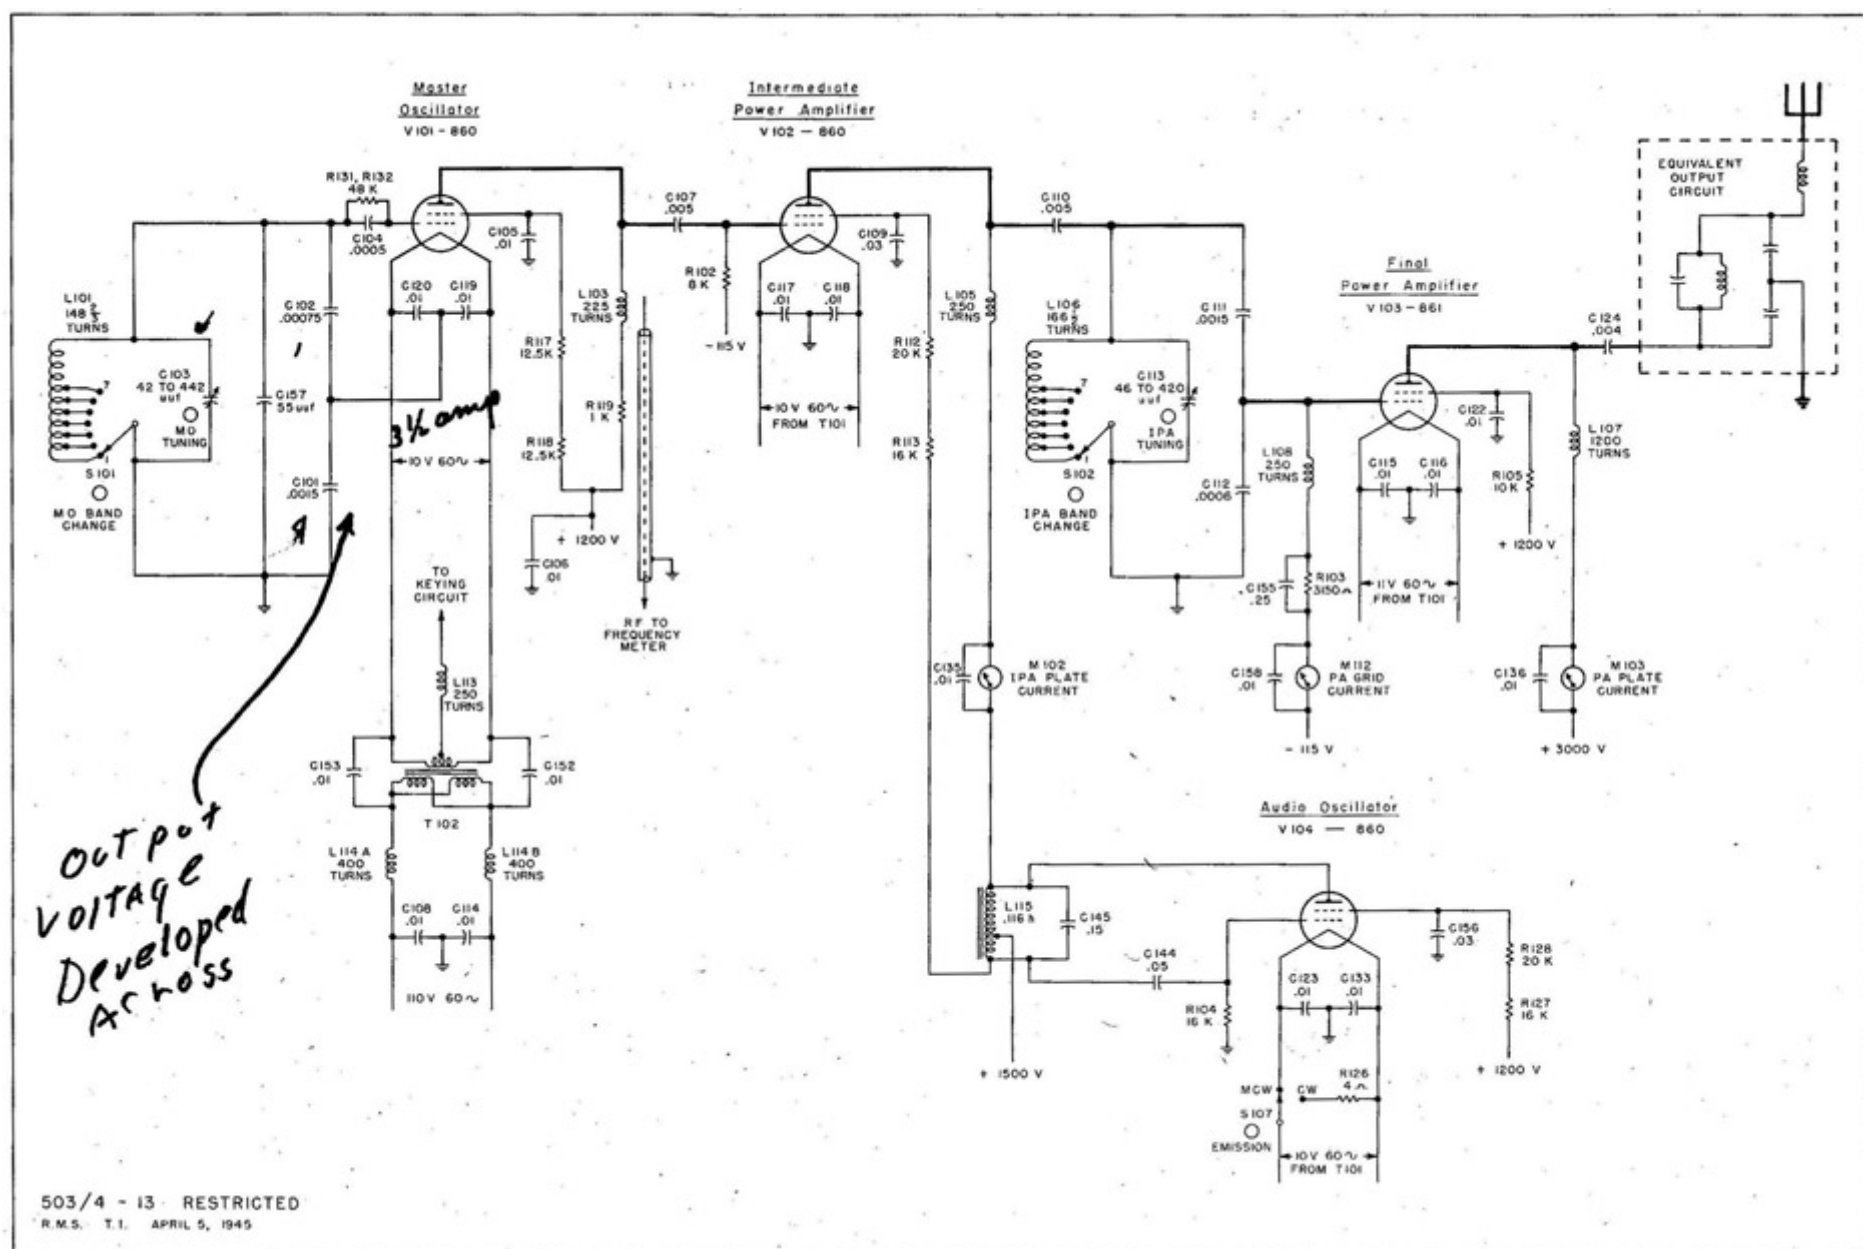
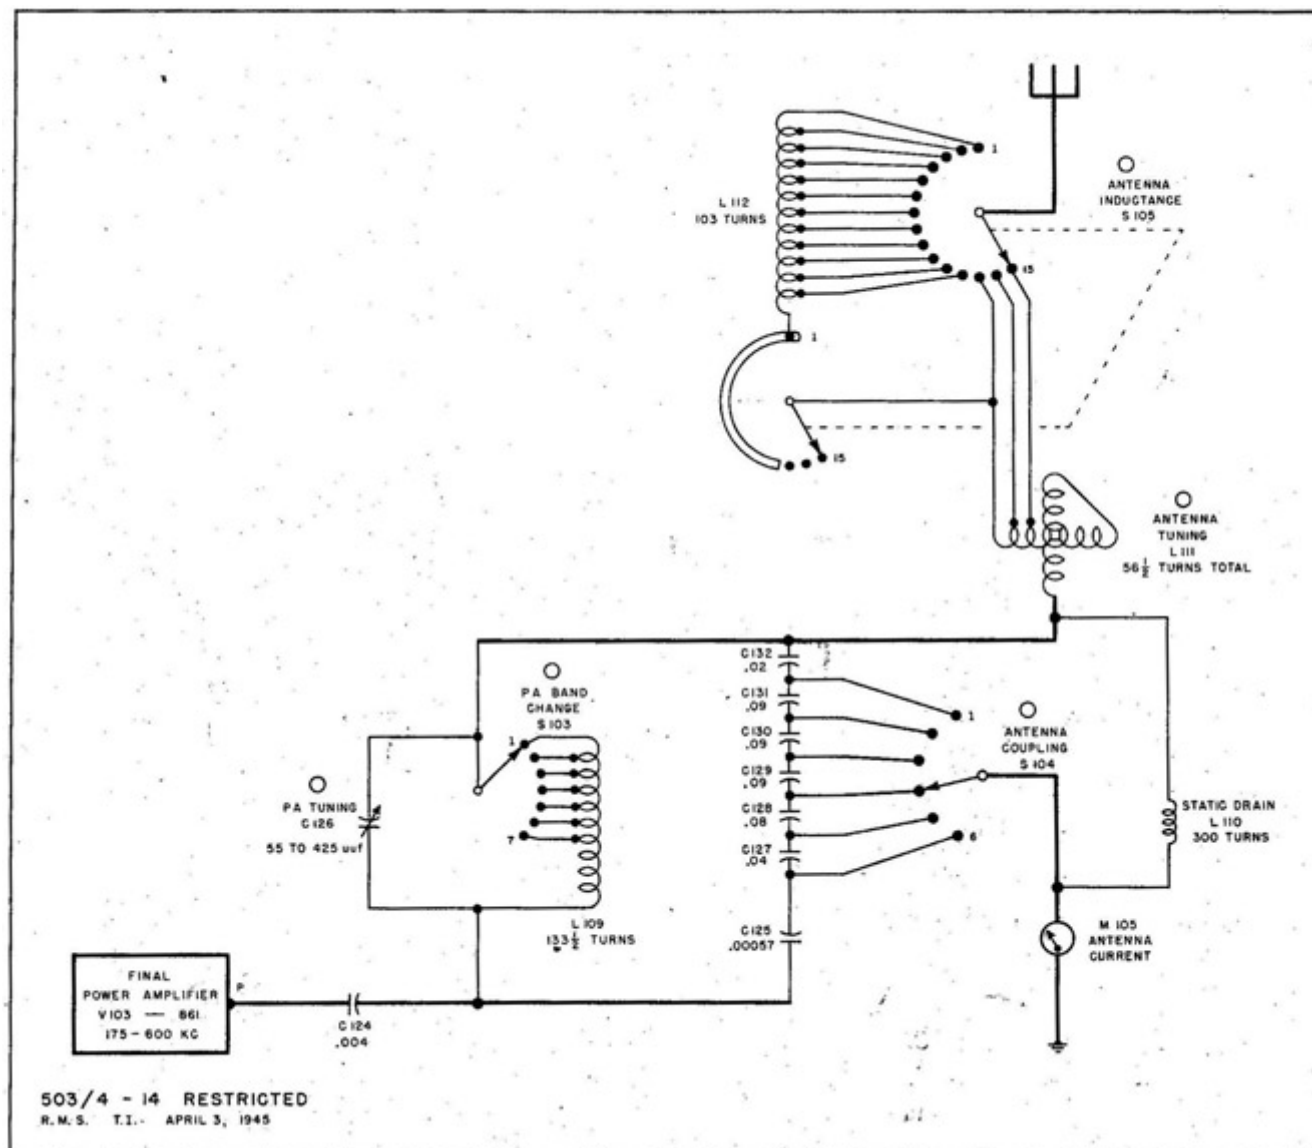

Fig. 13 TAJ-18 Transmitter RF and AF Circuits.
Fig. 14 TAJ-18 Transmitter Antenna Circuit.
- (a) Tuning range from 175 to 600 kilocycles in the same manner as the IPA. The details omitted from the equivalent output circuit in Fig. 13 are shown in Fig. 14.